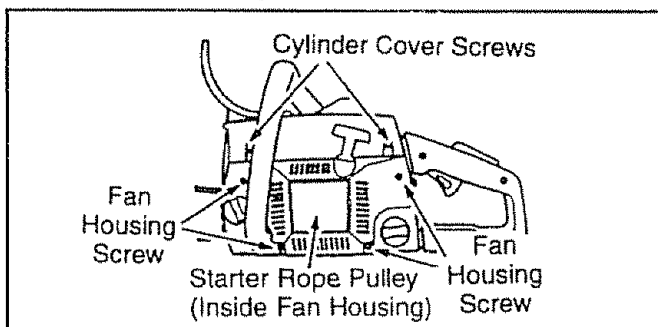

Figure 54
STARTER ROPE REPLACEMENT (Fig. 54, 55, 56, 57 & 58)
- Reinstall the 4 fan housing screws and tighten the 2 cylinder cover screws. Figure 54.